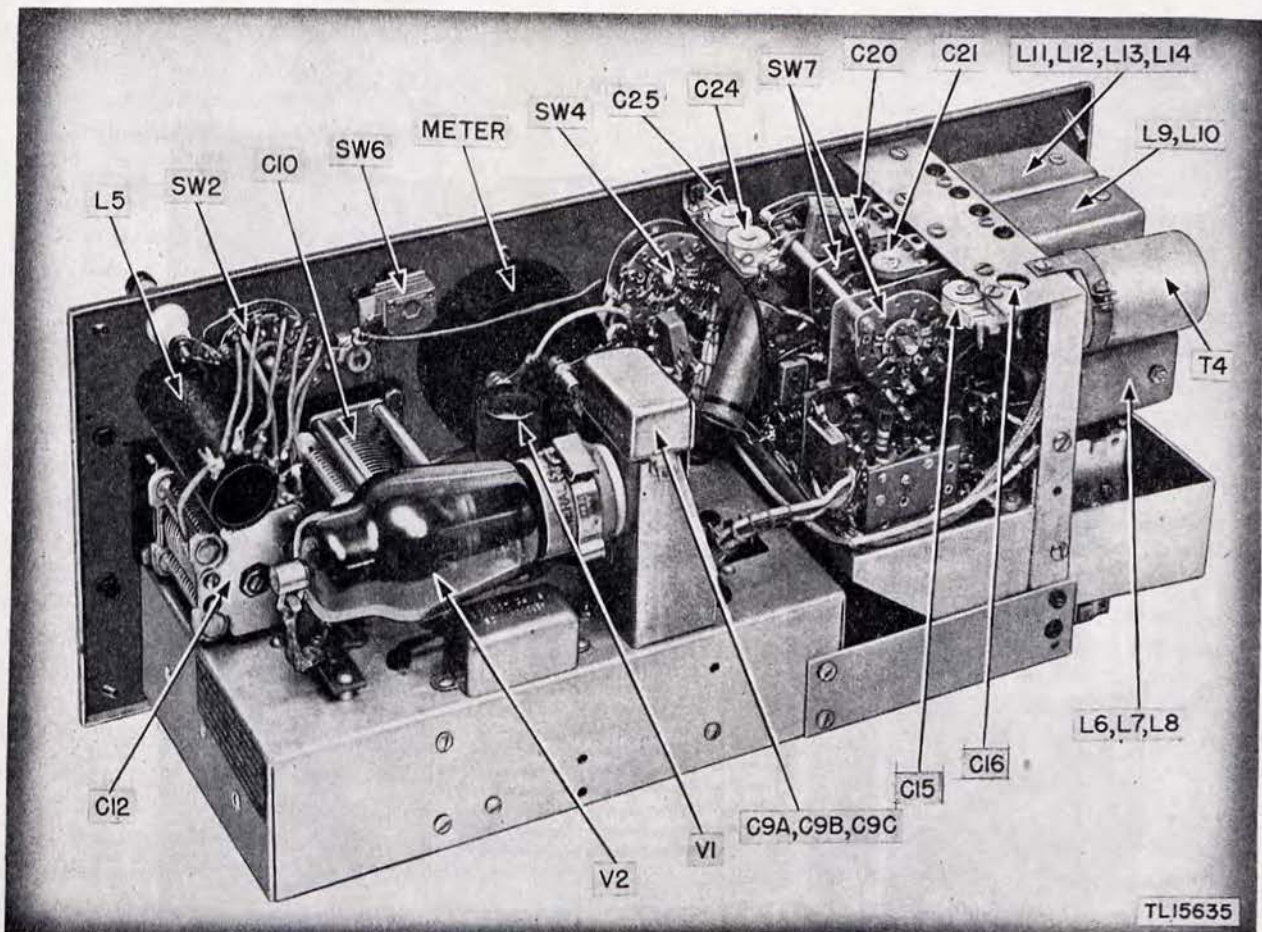

Figure 16. Rear view of receiver-transmitter chassis, showing location of parts.
mers. All adjustments are made with the output of the signal generator connected to the ANT (through a 0.05 series capacitor) and GND posts in the upper right-hand corner of the front panel, and with the output meter connected as described in subparagraph *a* above. For location of oscillator trimmer adjusting screws refer to figure 16.
**e. R-f Amplifier Alignment.** With the output of the signal generator connected to the ANT and GND posts of the receiver, and with the output meter connected as above, align the r-f stage in accordance with the following procedure. For location of r-f trimmer adjusting screws refer to figure 16.
(1) R-F ALIGNMENT FOR LOW BAND.